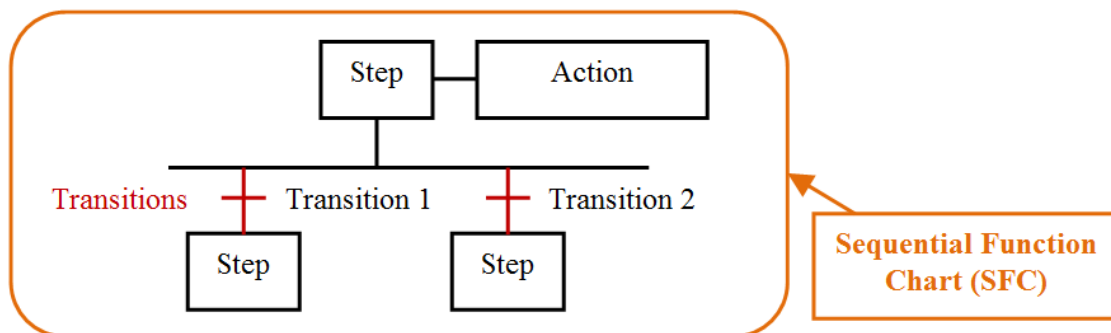

Figure 126: Condition change for SFC transition
- Change the condition of a SFC transition or the actions of a SFC step (Figure 126).